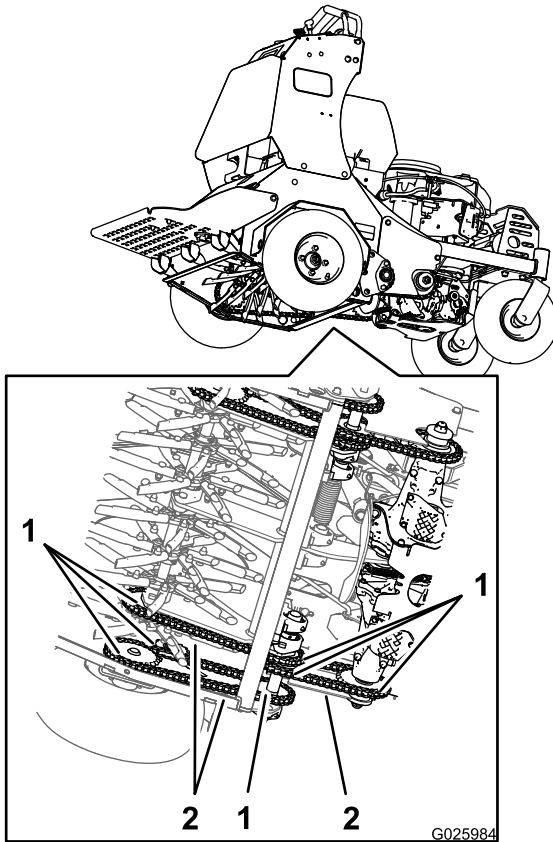

Figure 16
2. Inspect sprockets for wear and replace as required (Figure 16).
2. Check the chain tension (Figure 16) at both sides of the machine.
5. With the engine running, slowly move the motion-control levers forward and lubricate all 6 chains (Figure 16).